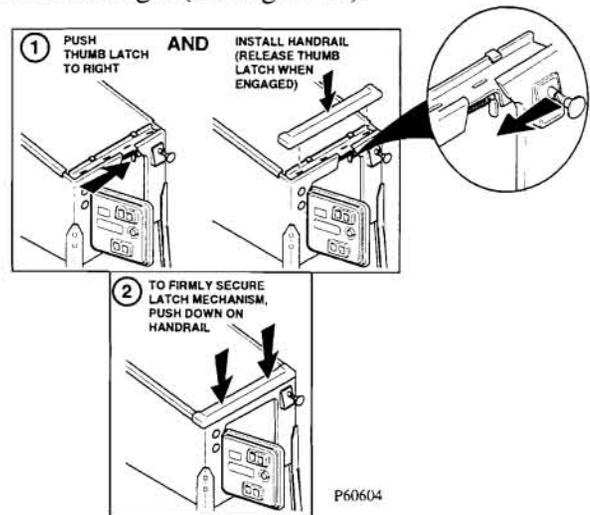

FIGURE 12: INSTALLING HANDRAIL
24) Re-install the handrail by engaging the thumb latch to the right (see Figure 12).